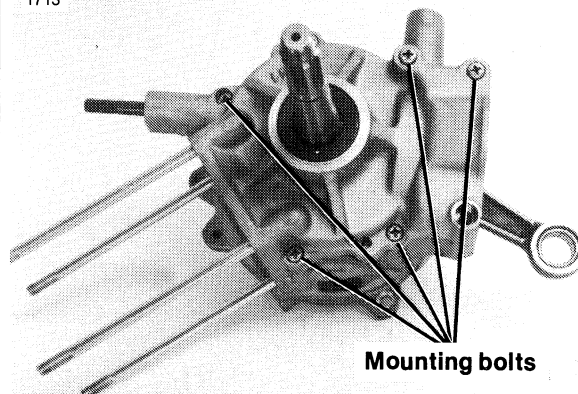

Figure 5-20. Crankcase Screws
9. See Figure 5-20. Remove the crankcase screws. Tap lightly on the motor mount bases and separate the crankcase halves.
14. Coat the case halves mating surfaces with 3M-800 INDUSTRIAL SEALER. Secure the case halves together with the original screws as shown in Figure 5-20.